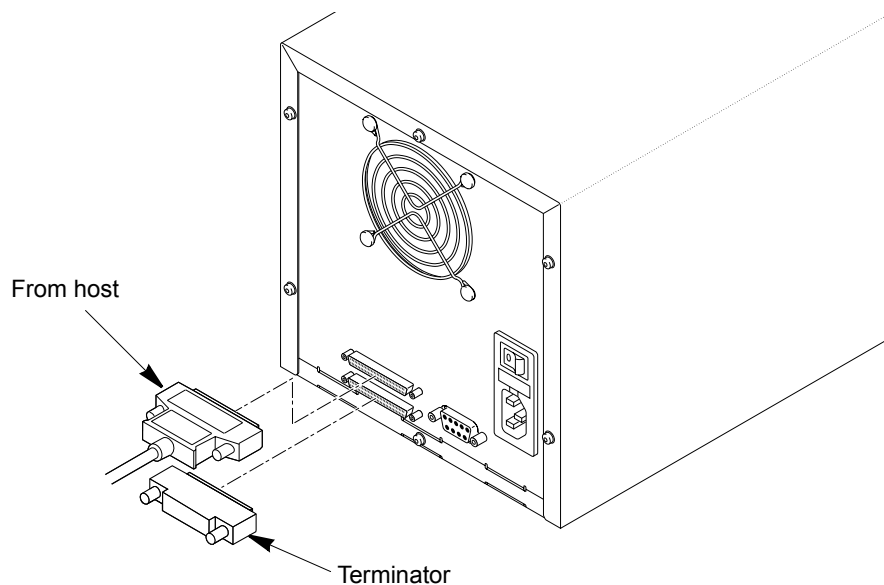

Figure 2-6 Connecting the autoloader to the SCSI bus (autoloader terminates the bus)
3. If the autoloader is the last device on the SCSI bus, install a terminator on the unused connector, as shown in Figure 2-6.